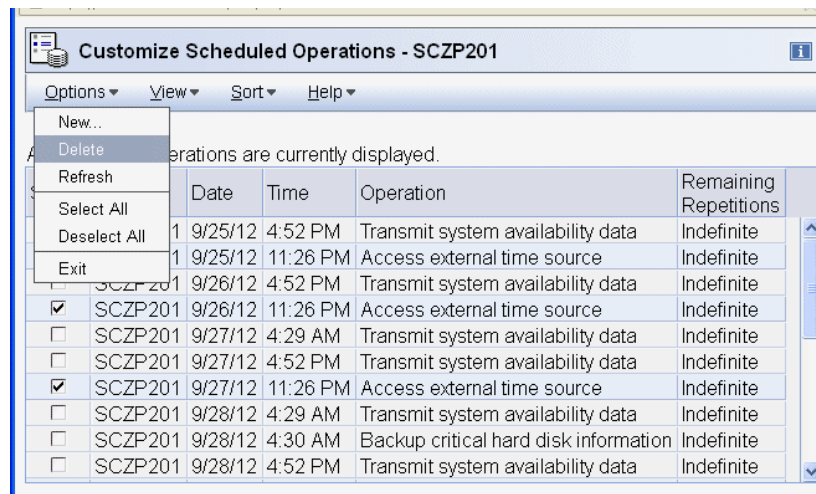

Figure 1-74 Delete dial-out scheduled operation
3. Delete the scheduled operation from all Support Elements that are currently configured to use the ETS dial-out capability. Select the servers to be changed, select **Operational Customization**, select **Customize Scheduled Operations**. In the list of scheduled operations select all operations of type **Access external time source** (this might be multiple) and click **Options** and **Delete** (Figure 1-74).